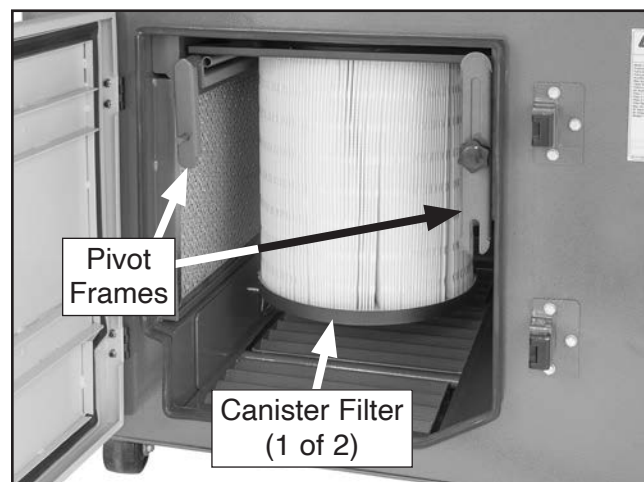

Figure 51. Pivot frames rotated down to release canister filters.
5. Rotate pivot frames down, then slide canister filters out of machine (see **Figure 51**).